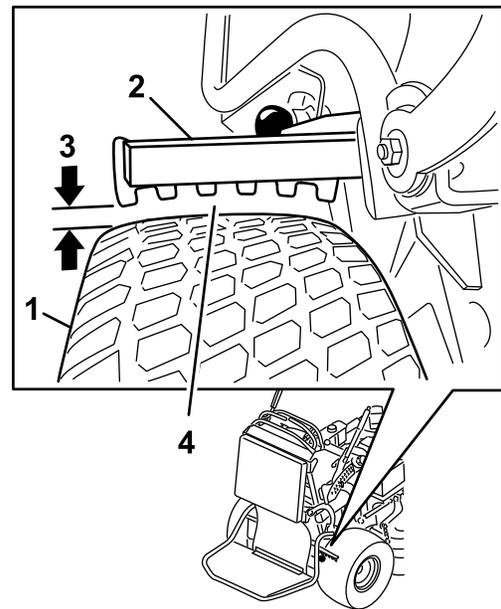

Figure 59
6. Using the side with the smallest clearance, ensure that the distance is between 3 and 6 mm (1/8 and 1/4 inches) as shown in Figure 59; refer to Adjusting the Brakes \(page 42\) if the distance is incorrect.
5. Adjust the yoke (Figure 59).